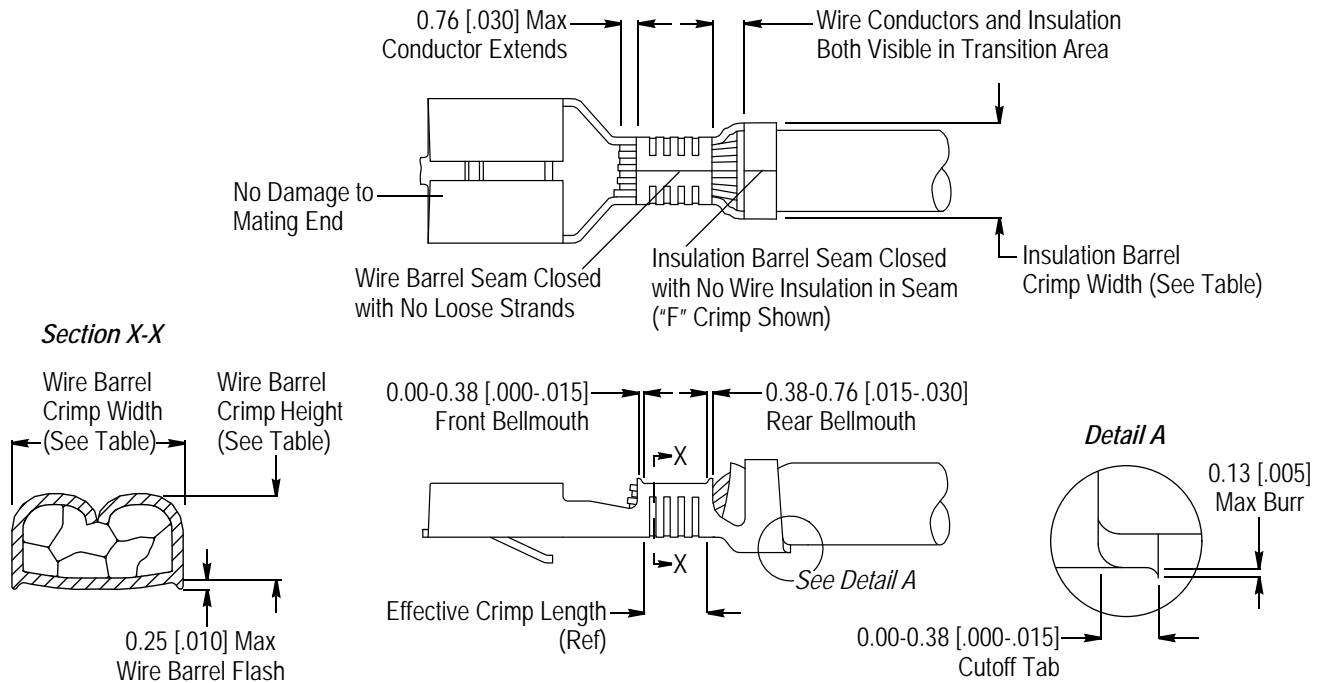

Figure 2
- Deleted table in Figure 2 and added new applicator part number to table in Figure 8
Effective crimp length is defined as that portion of the wire barrel, excluding the bellmouths, fully formed by the crimping tool. Refer to Figure 2 and the applicator sheet.
Front and rear bellmouths shall be evident and conform to the dimensions given in Figure 2.
The cutoff tab shall be cut to and the cutoff burr shall not exceed the dimensions given in Figure 2.
The wire barrel flash shall not exceed the dimension given in Figure 2.
The wire conductors and insulation must be visible in the transition area (the area between the wire barrel and insulation barrel). The conductors may extend beyond the wire barrel to the maximum dimension given in Figure 2.